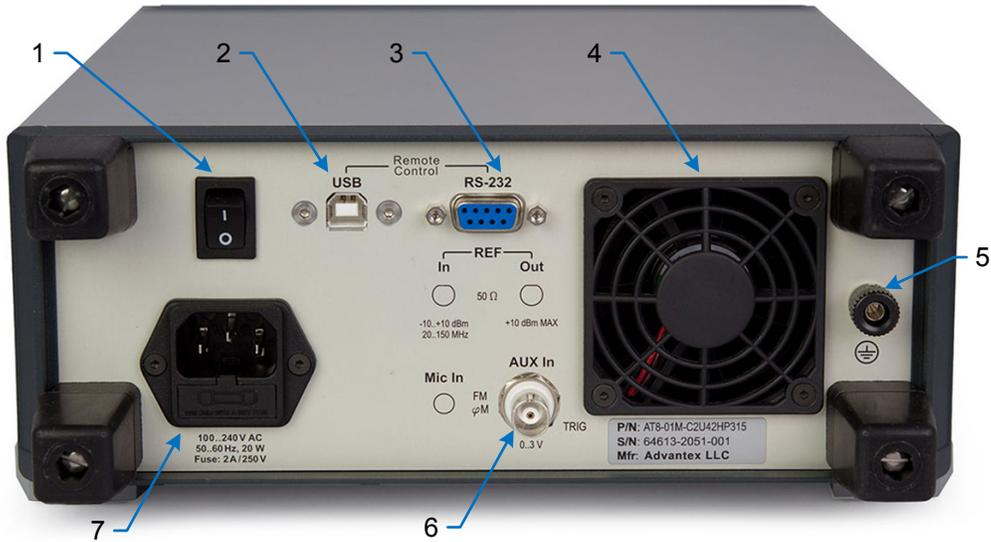

Figure 4: Rear panel view
2. Verify that rear panel AC power ON/OFF switch (item 1, fig. 4) is turned off.
Figure 4 shows rear panel view of the instrument. Its elements are designated with the following callouts: